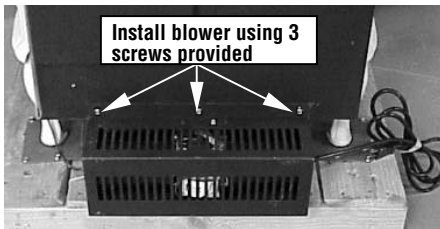
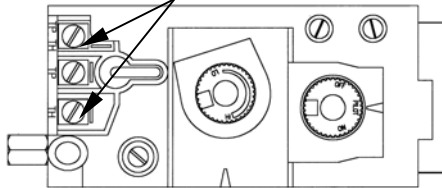

Figure 1
Figure 10
Using a 1/4" nut driver or socket, install the Blower Assembly, using the 3 screws provided, to the bottom of the rear shroud as shown in Figure 1.
- Reconnect the 2 black on/off switch wires to the valve (TP/TH and TH terminals). See Figure 1 and Figure 10.